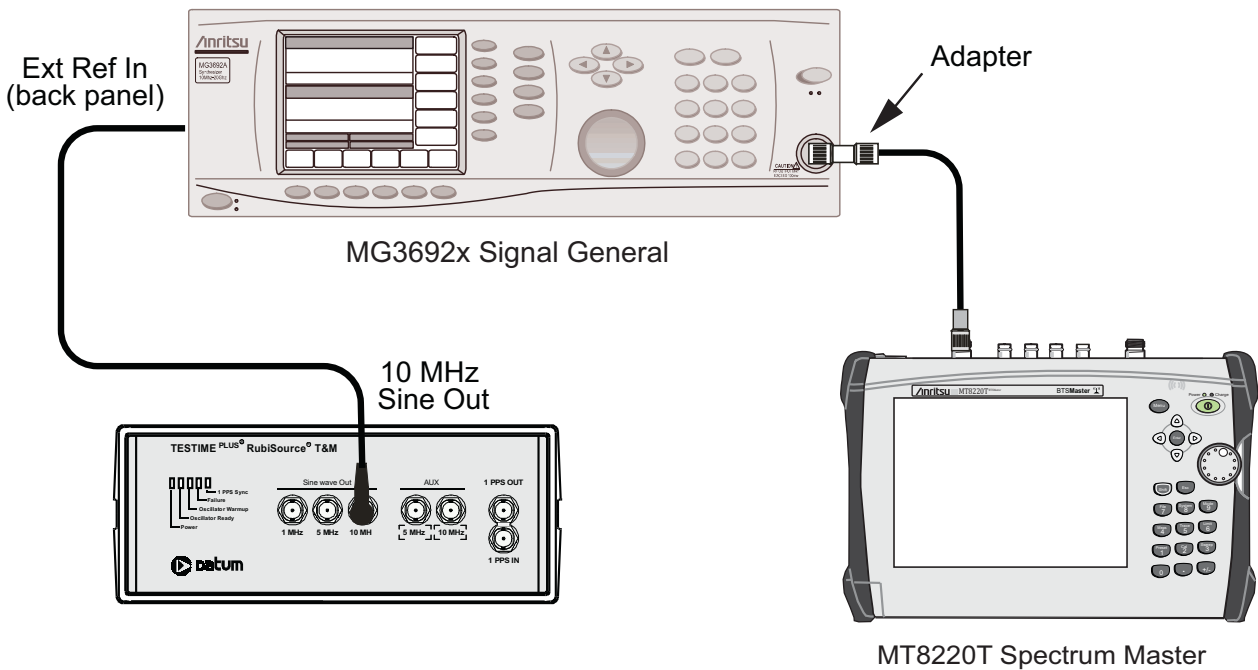

Figure 5-1. Frequency Accuracy Verification by Synthesized Signal Generator
2. Connect the output of the Synthesized Signal Generator to the Spectrum Analyzer RF In of the MT8220T, as shown in Figure 5-1.